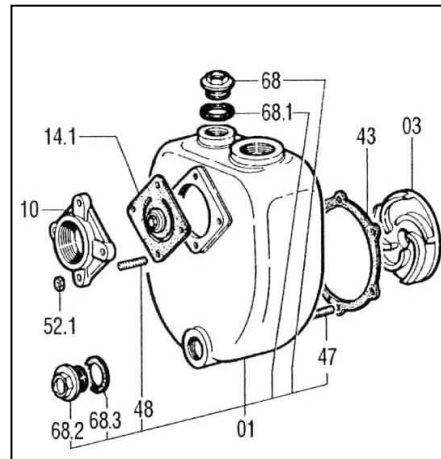

Figure 3
- ❖ **Never leave liquid in the pump casing. Drain the casing immediately through the drain plug (figure 3, #68.2). During winter months and cold weather, the liquid could freeze and damage the pump casing. If the liquid is hazardous, take all necessary precautions to avoid damage and injury before emptying the pump casing. From time to time, turn the shaft to avoid encrustation inside the pump.**